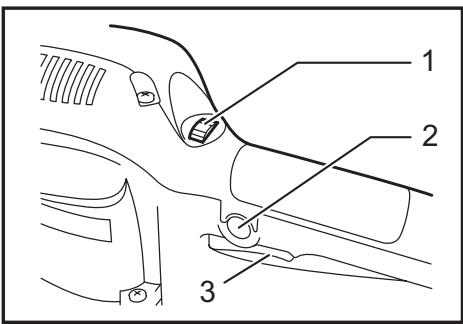

Fig.1
- Fig.1: 1. Speed adjusting dial 2. Lock button